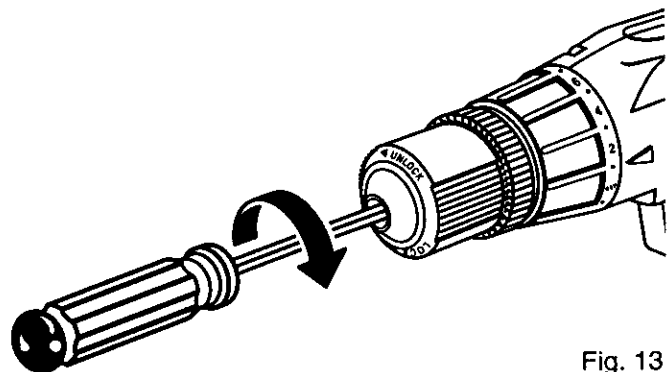

Fig. 13
- Tap the hex key wrench sharply with a mallet in a clockwise direction. See Figure 13. This will loosen the screw in the chuck for easy removal.
- Open chuck jaws and remove hex key wrench. Remove the chuck screw by turning it in a clockwise direction. See Figure 13. **Note:** The screw has left hand threads.